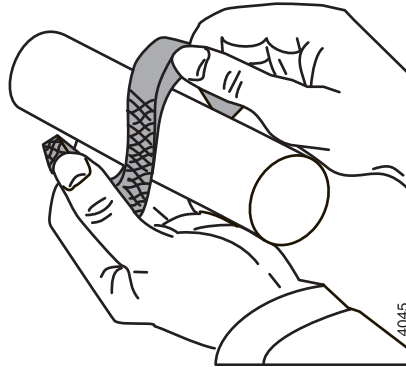

Figure 20: Bending open of gland packing rings.
- 1 Fit the 5 packing rings. Place the packing rings with the openings offset. The packing rings may only be bent open axially, see figure 20.